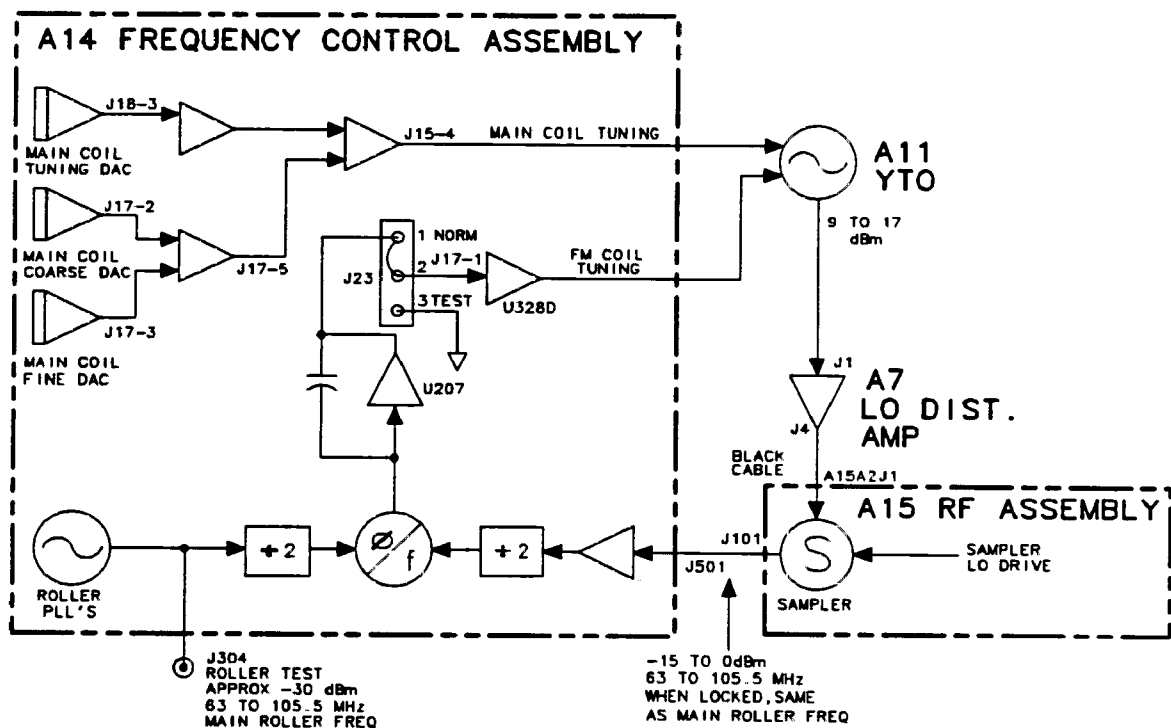

Figure 11-9. Troubleshooting an Unlocked YTO PLL
1. If the YTO PLL is unlocked, error code 301 should be displayed. Place the HP 8562A/B in ZERO SPAN. Figure 11-9 illustrates the simplified YTO PLL.